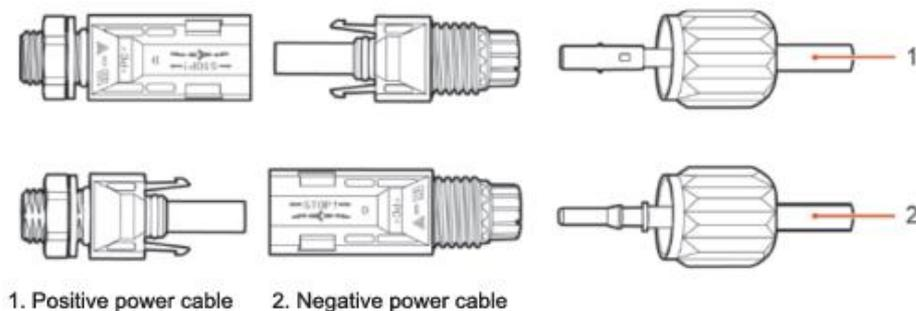

Figure 20 - Connecting the DC input power cables (2)
- 4) Insert the stripped positive and negative power cables in the positive and negative metal terminals respectively, and crimp them using a suitable tool. Make sure that the cables are secured so that they cannot be pulled out with a force of less than 400 N, as shown in Figure 20